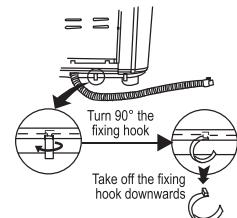

Figure 3
2. Turn 90° the drain hose fixing hook to remove it from the installation hole.(See Figure 3.)